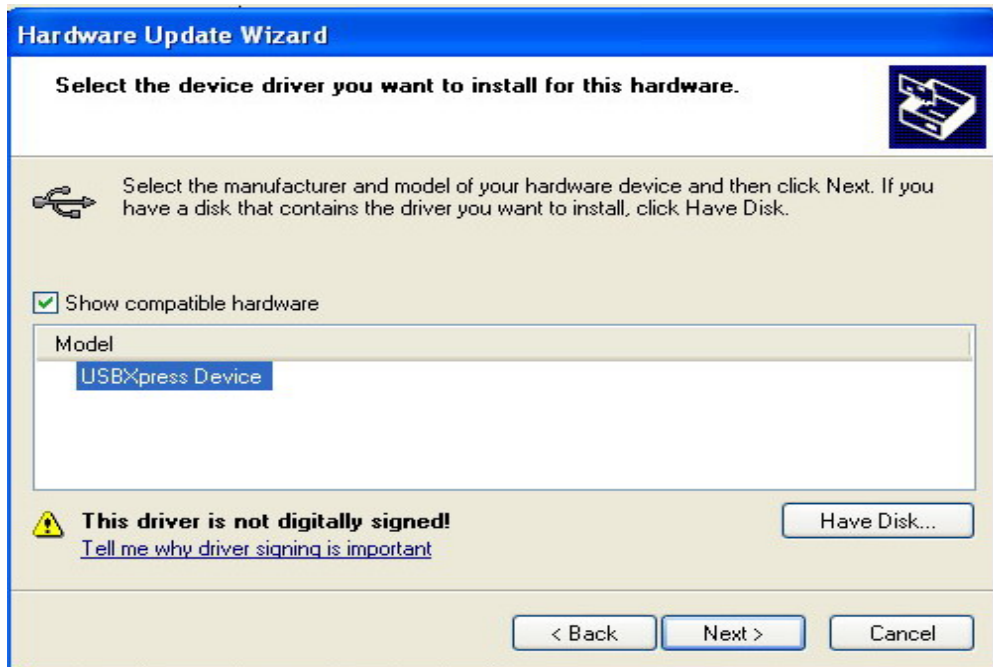

Figure 11
5.4 Next move, the choice "install from the disk" figure 11